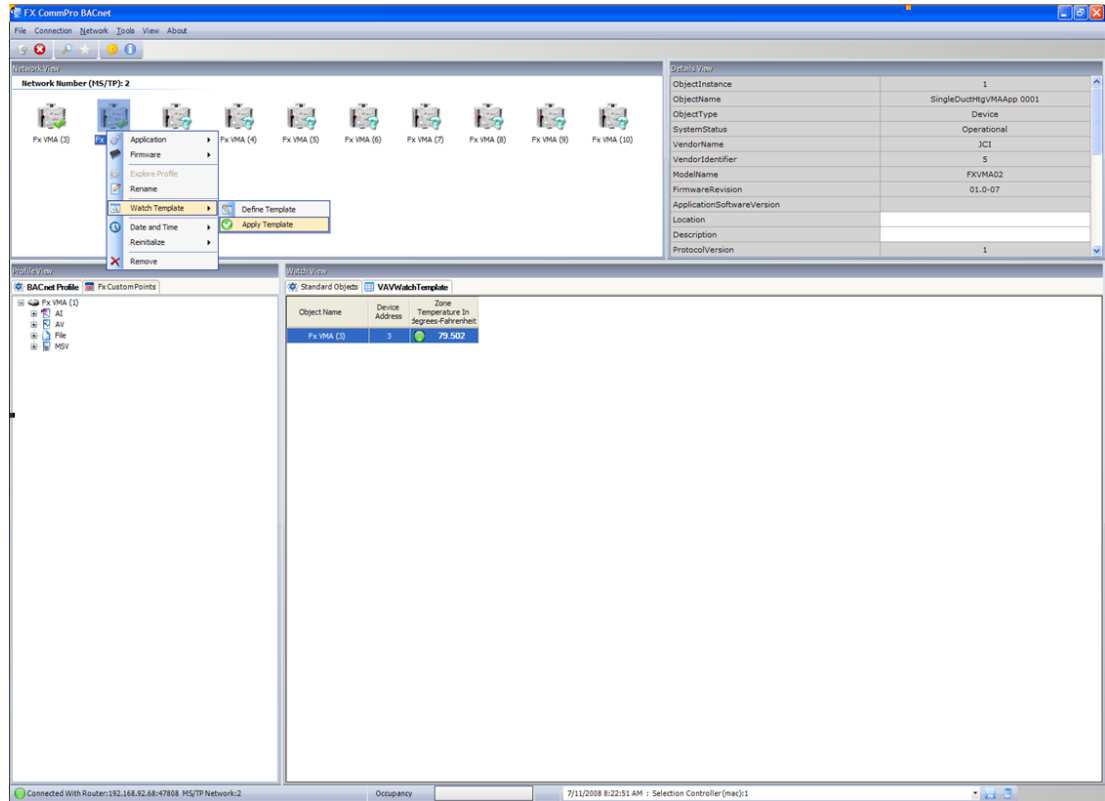

Figure 35: Apply Watch Template
2. Select Apply Template from the Watch Template menu (Figure 35). The Watch Template is now applied to the device (Figure 36).